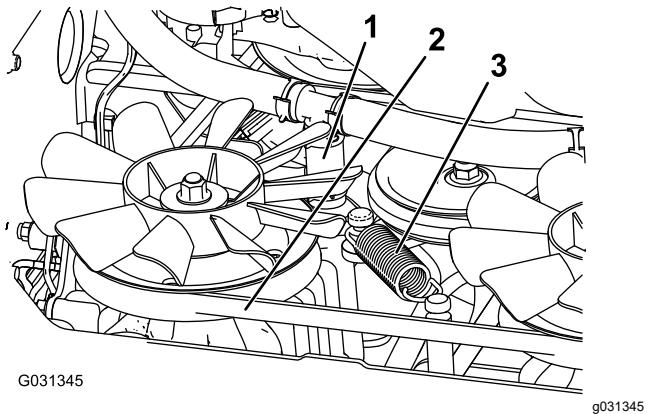

Figure 68
5. Remove the lower hydraulic hose (Figure 68).
6. Remove the tension spring (Figure 68).